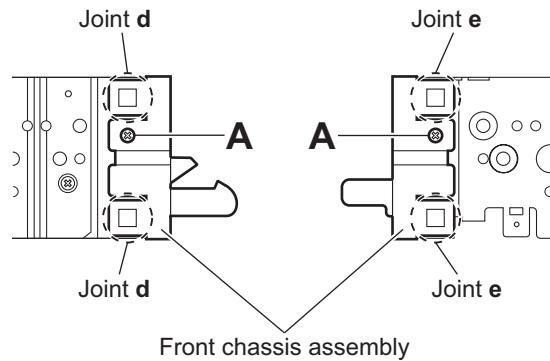

Fig.3
(See Figs.3 and 4)
- (1) Remove the two screws **A** on the both sides of the main body. (See Fig.3)
- (3) Release the two joints **d** and two joints **e** on the both sides of the main body, then remove the front chassis assembly forward. (See Fig.3)
(See Figs.3 to 5)